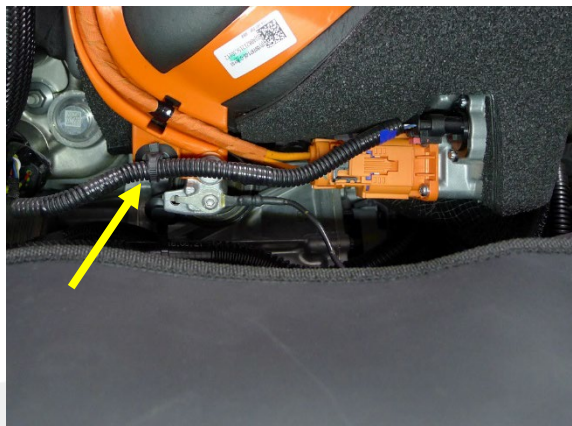

Figure 43
37. Fasten the clip that attaches the A/C compressor LV logic harness to the A/C compressor HV harness bracket (Figure 43).